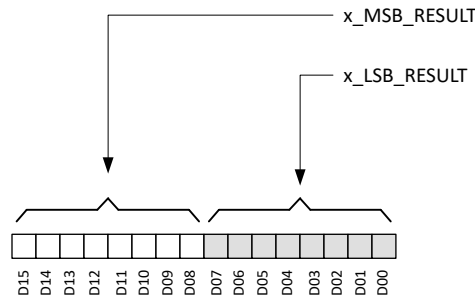

図 7-15. Magnetic Sensor Data Definition
The X, Y, and Z magnetic sensor data are stored in x_MSB_RESULT and x_LSB_RESULT registers. 図 7-15 shows that each sensor output stored in a 16-bit 2's complement format in two 8-bit registers. The data can be retrieved as 16-bit format combining both MSB and LSB registers, or as 8-bit format through the MSB register.
- D_i is the data bit shown in 図 7-15.